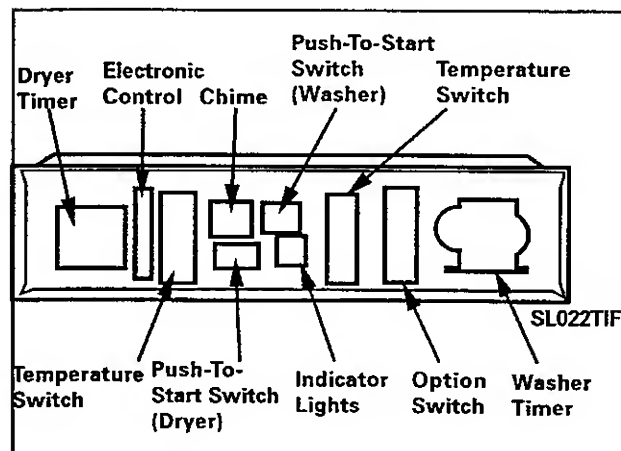

Figure 4-7
5. With the console removed, you now have access to the switches and timers in the control console (Figure 4-7).